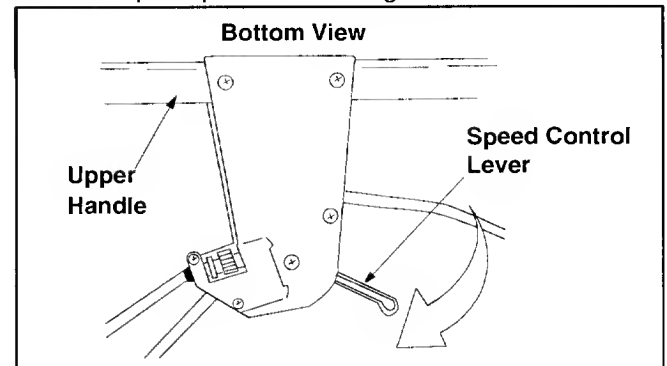

Figure 14
- Start engine and place speed control lever in the sixth speed position. See Figure 14.